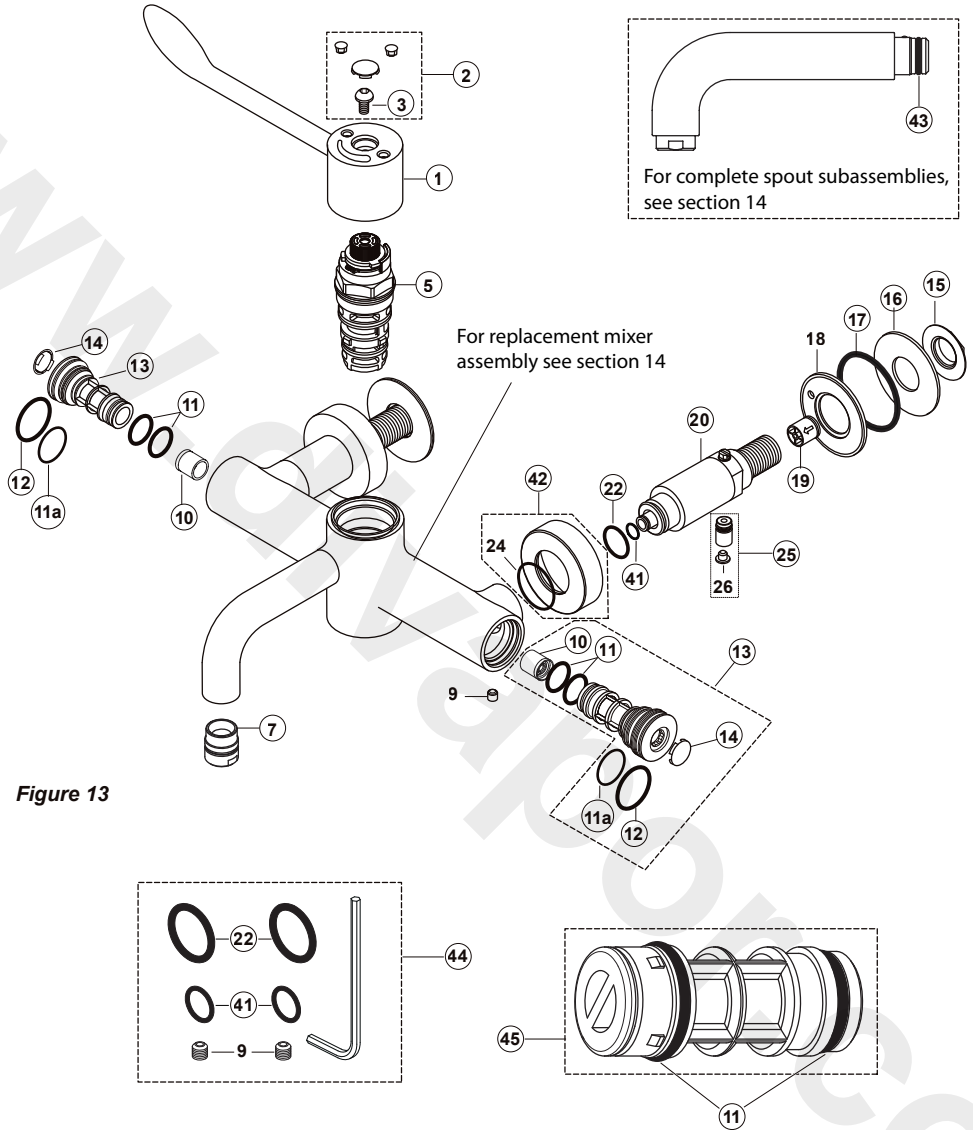

Figure 13
To prevent back siphonage of water to the supply pipes, check valves are fitted inside the inlet tails (19) – see figure 13.
*To achieve a suitable flow rate where supply pressures are very low it may be necessary to remove the flow regulator (item 10 figure 13).